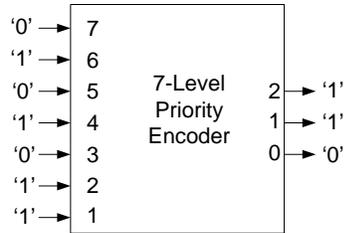

Figure 1. An example of 7-level priority encoder.
**Exercise 3:** Implement a 7-level priority encoder using a **WHEN/ELSE statement**. The block diagram for a 7-level encoder is shown in Figure 1. The circuit must encode the position of the input bit of the highest order that is active. For example, if the input bits are “0101011”, then the output bits should be “110” to indicate that 6 is the highest bit position that is active. “000” should indicate that there is no active bit.